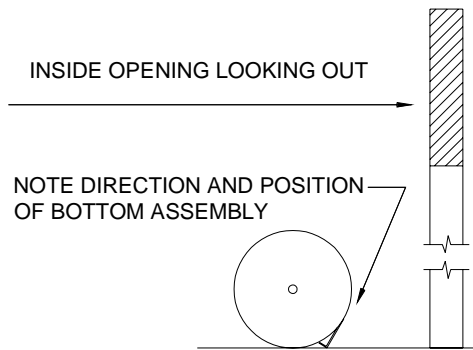

Figure 3.
4.3 Position the door in the opening as shown in Figure 3. Be sure to place the door on a protective material to prevent damage to the curtain.